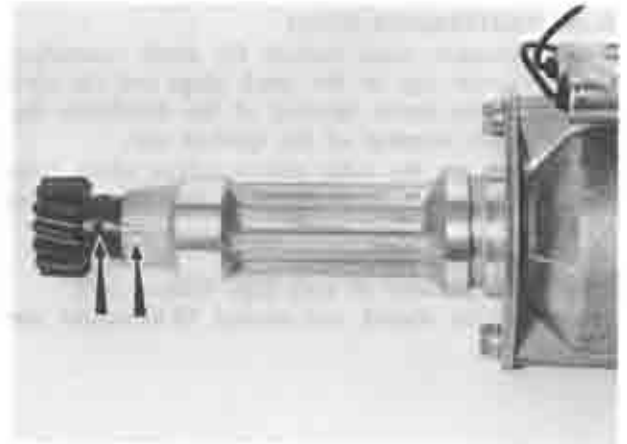

Fig. 5-42 Aligning tally marks
2. Align the tally marks on the distributor housing and driven gear as shown in Fig. 5-42.